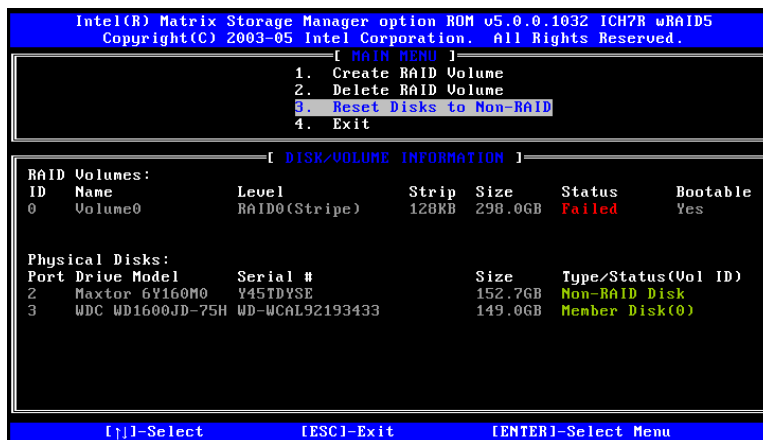

Figure F-15: Disk Drive and RAID Volume Status
Step 4: Disk Drive and RAID Volume Status. After the disk drives have been reset, the **Matrix Storage Manager Main** menu is shown indicating the status of the RAID volumes and disk drives. See **Figure F-15**.